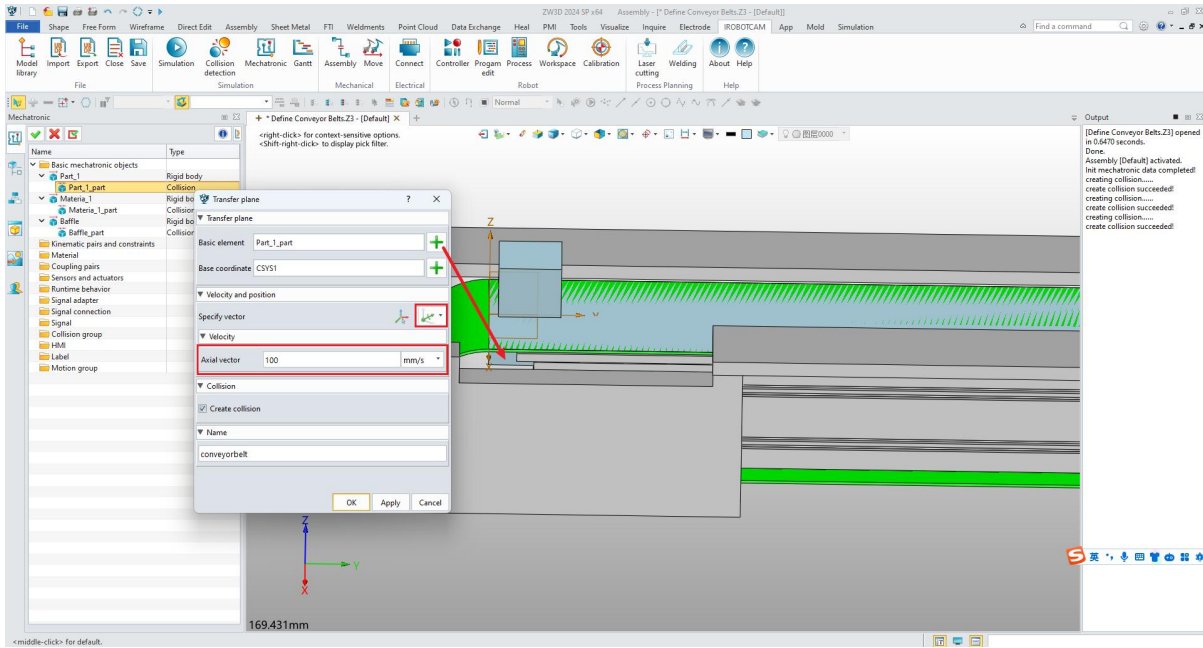

Figure 6-14: Transfer plane
- Click "OK" to generate the conveyor belt object. (Figure 6-14)